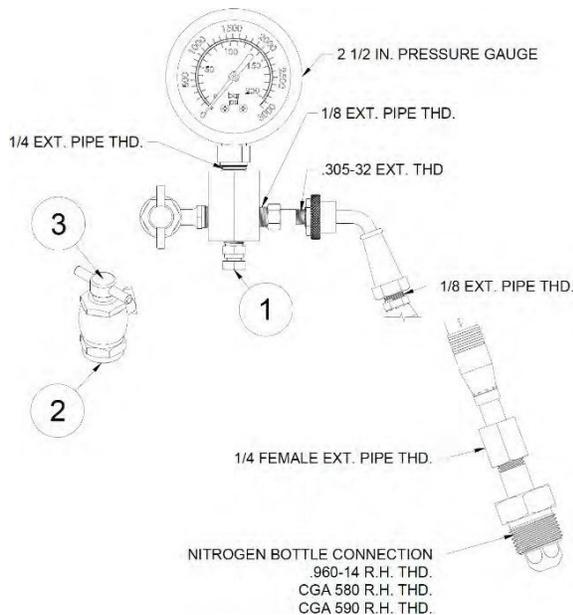

Figure 9: Charging Kit
3. Add nitrogen using appropriate charge kit (REXA part number K09851-3000). See Figure 9 below. Using the Pre-Charging Procedure, DOC134, add nitrogen until the pressure reaches what is shown on the bottle tag (typically 1900 psi) shown in Figure 10.
Back out the gas chuck “T” handle (Figure 9: Item 3) all the way (counterclockwise) before attaching charging assembly to accumulator gas valve.
Close the bleed valve using a 7/16” wrench (Figure 9: Item 1).
Attach swivel nut to gas valve (Figure 9: Item 2) and tighten to 11-16 in-lbs. using an 11/16” wrench. Make sure not to loop or twist the hose.
When finished pre-charging the accumulator, turn "T" handle all the way out on the gas chuck (Figure 9: Item 3), then open the bleed valve (Figure 9: Item 1).